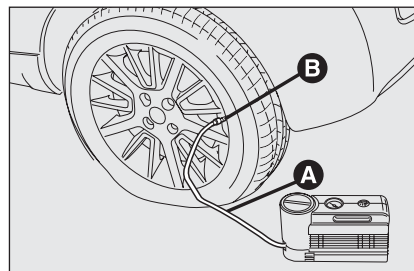

fig. 9
- Apply the handbrake.** Remove the tyre valve cap, extract the flexible filler tube **A**-fig. 9 and fasten the ring **B** onto the tyre valve;